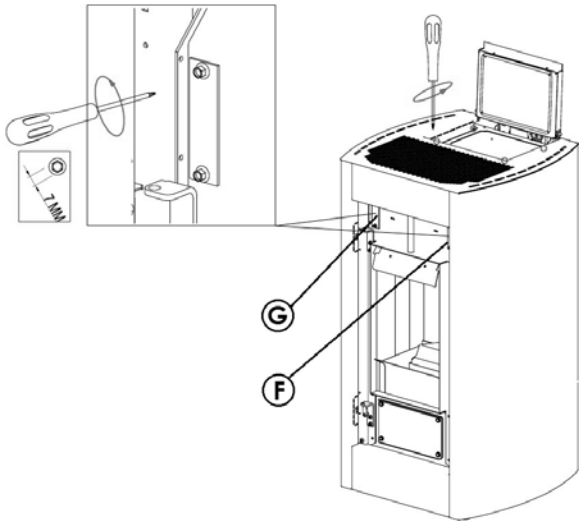

Fig. 86 - Plates removal
- When the stove is cool, remove plate "F" by loosening the two screws (see **Fig. 86**).